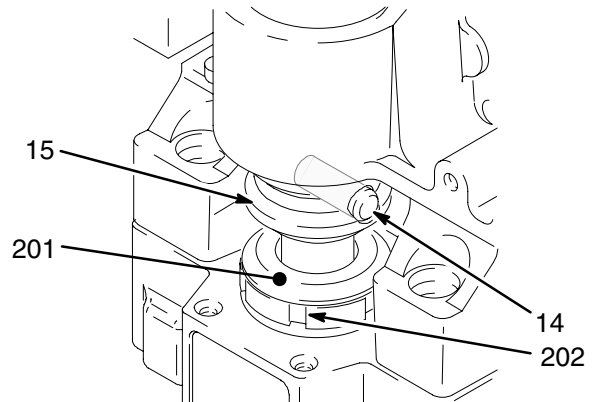

Fig. 9 7840A
Be sure retaining spring (18) is firmly in groove all around, to prevent pin (14) from working loose. See Fig. 9.